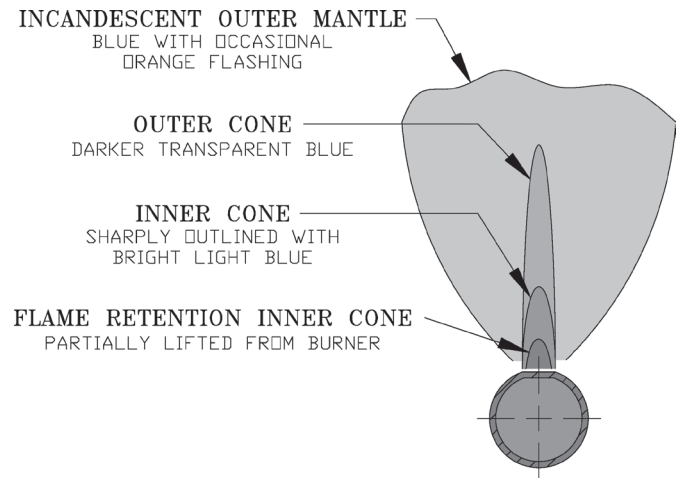

Figure 6: Main Burner Flame
5. Check main burner flames through observation port. See Figure 6. Flame should have clearly defined inner cones with no yellow tipping. Orange-yellow streaks caused by dust should not be confused with true yellow tipping. If yellow flames are observed, follow instructions TO TURN OFF GAS TO APPLIANCE (see Figure 3) and contact qualified service agency.